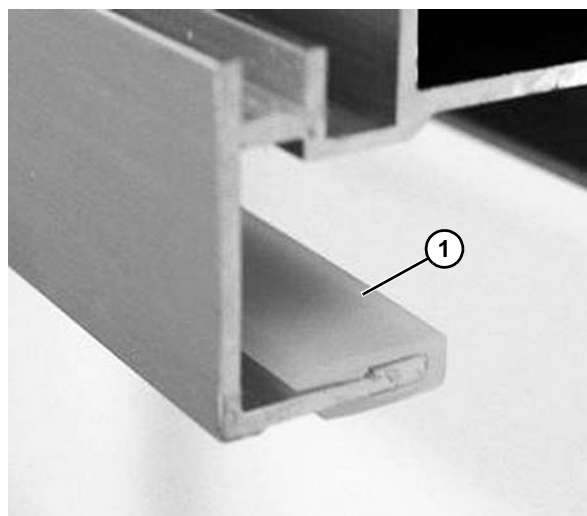

Figure 30
2. Make sure the slide rail (Figure 30, item 1) is properly mounted and snaps onto the beam. The longer flange of the slide rail must always face inside of the beam (See Figure 31).